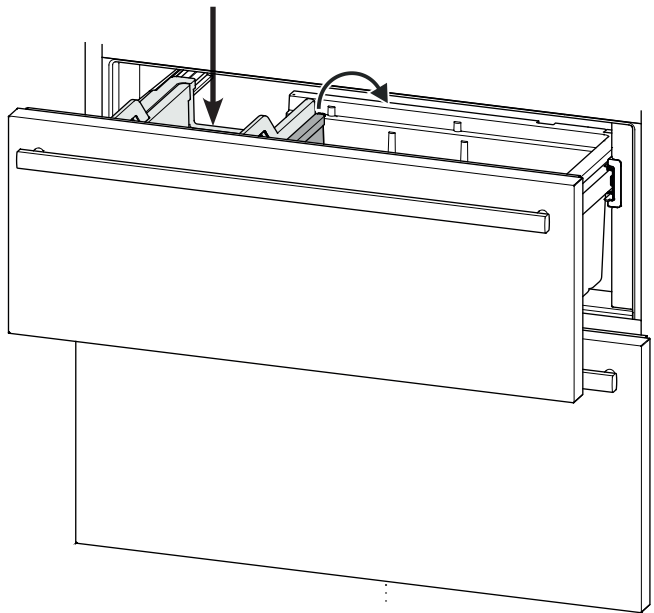

Figure 16
The upper drawer is divided by a partition wall for storing ice cubes in the left part of the drawer (**Figure 16**).
If you need more ice cube storage space, pull up the partition wall and refit on the adjacent rail (**Figure 16**).
- Remove glass shelves as shown in **Figure 16**.